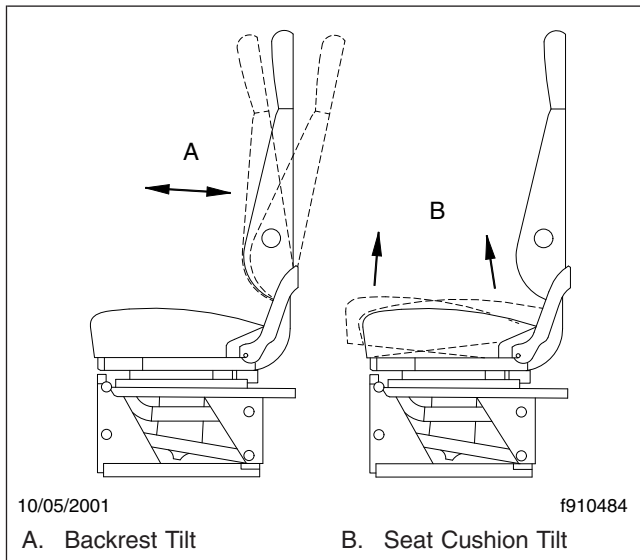

Fig. 5.8, Cushion Tilt Adjustments
5. **Backrest Tilt:** This adjustment pivots the backrest forward or backward (**Fig. 5.8**).
6. **Seat Cushion Tilt:** This adjustment raises or lowers the front and/or back of the seat (bottom) cushion. This adjustment is easier to perform when all weight is removed from the seat (**Fig. 5.8**).
7. **Seat Tilt:** When this adjustment is made, the seat assembly, both backrest and seat cushion, tilts forward or backward (**Fig. 5.8**).